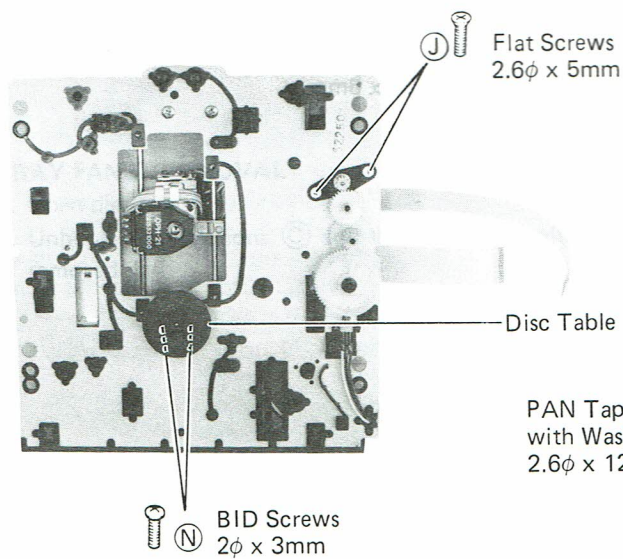

Figure 11
3. Remove two screws (J) (Figure 11) and one screw (K) (Figure 12), and the loading motor P.C. Board will be removed.
6. Remove disc table and two screws (N), and the disc motor assembly will be removed. (Figure 11)